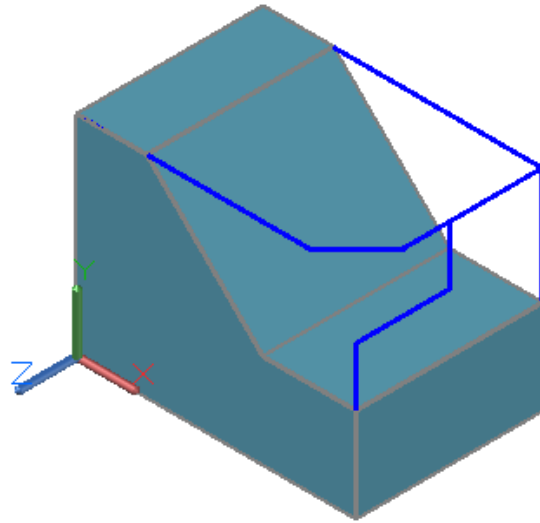

Figure Step 10
Step 10 Set the current visual style to Realistic to see the extruded solid. (Figure Step 10)